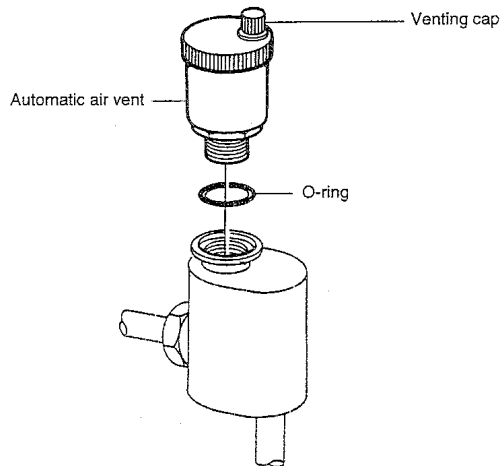

Fig. 41
- Re-assemble in reverse order ensuring the «O» ring is fitted (fig. 41) and that the venting cap is loose